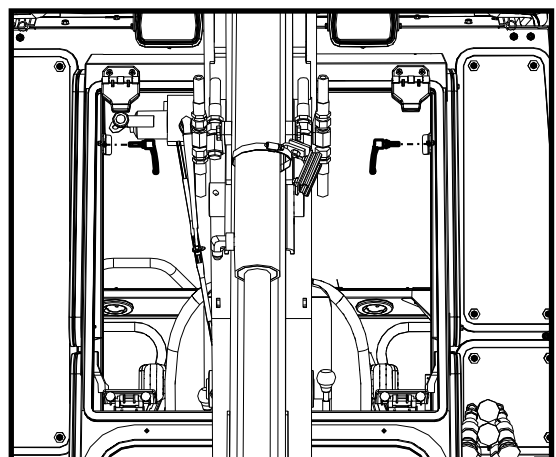

Fig. 18.7: Secure Backhoe Cab Hand Screws
- 18.7 Rotate the backhoe cab forward and secure backhoe cab to the rear panel with the adjustable handles (see Figure 18.7). Note: An additional clamp can be used in order to compress the foam seal and allow the slot and threaded insert to align for easier hand screw installation.